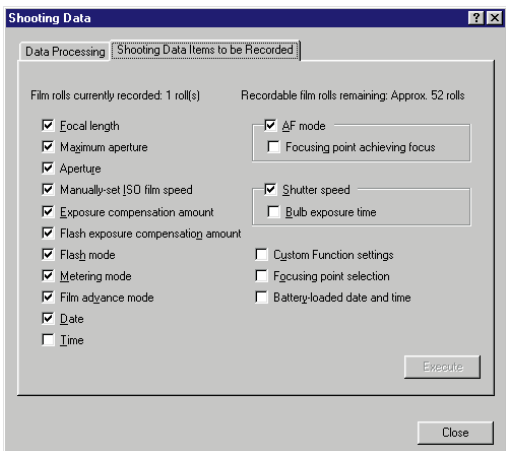

Fig. 1-8 Shooting Data Items to be Recorded dialog box.
- The Shooting Data Items to be Recorded dialog box (Fig. 1-8) shows the shooting data items recorded by the camera and the number of film rolls recorded. Table 1-2-2 shows the shooting data items that can be recorded. The user can select which shooting data items are to be recorded by the camera. (This can also be done while film is in the camera.) The number of film rolls whose shooting data can be recorded by the camera will vary depending on the number of shooting data items that are recorded.